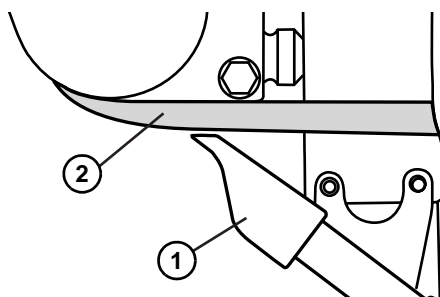

Figure 46
Apply minimal pressure between the scraper (Figure 46, item 1) and the belt (Figure 46, item 2).